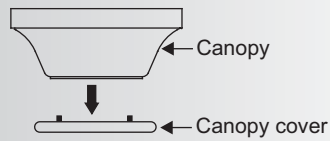

Fig. 8
Step 2. Remove the decorative canopy cover from the canopy by turning canopy cover counterclockwise. (Fig. 8)